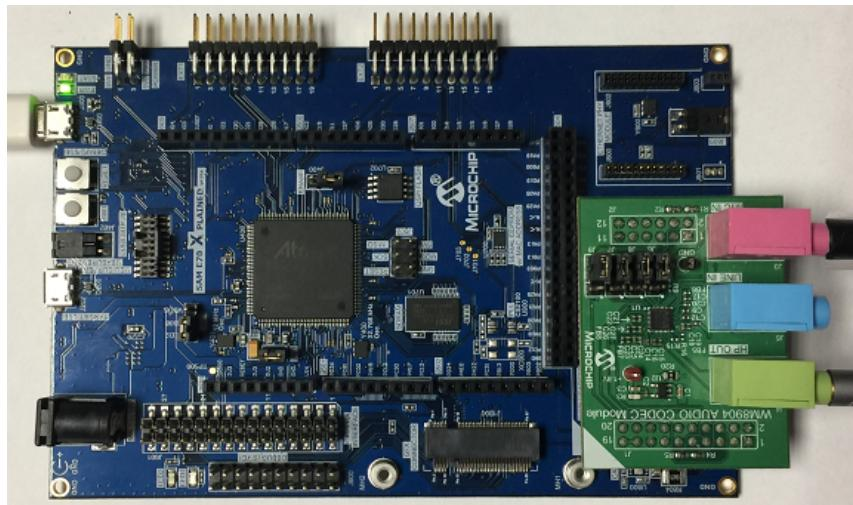

Figure 1: WM8904 Audio Codec Daughter Board on SAM E70 Xplained Ultra board
1. Connect headphones to the HP OUT jack of the WM8904 Audio Codec Daughter Board (see **Figure 1**), or the HEADPHONE jack of the SAM V71 Xplained Ultra board.
2. Connect a microphone to the MIC IN jack of the WM8904 Audio Codec Daughter Board (see **Figure 1**), or the MICROPHONE